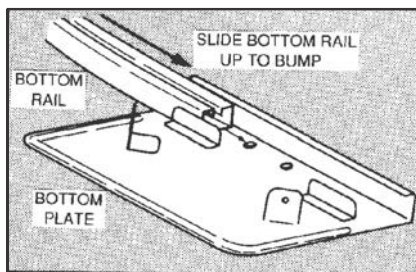

Fig. 33
- In most size pools, the four 39" bottom wall rims are for the "corners." One side snaps into the straight side connector on the final straight side upright, while the other side slides into a bottom plate or bottom cuff as shown in Fig.33 or Fig.34.